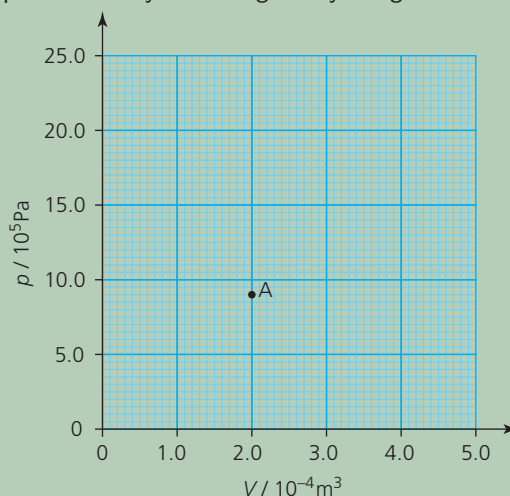

Figure Q4
- In order to design engines, engineers must consider the thermodynamic processes that take place in gases. Figure Q4 is a p - V graph showing the variation of pressure and volume of a fixed mass of gas in a cylinder. A is one point in the cycle undergone by the gas.